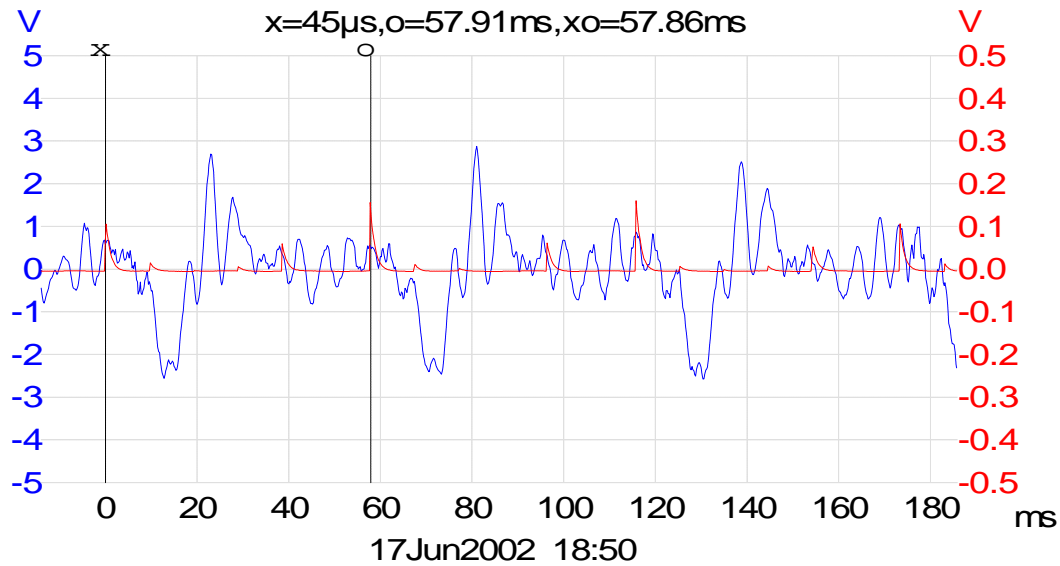
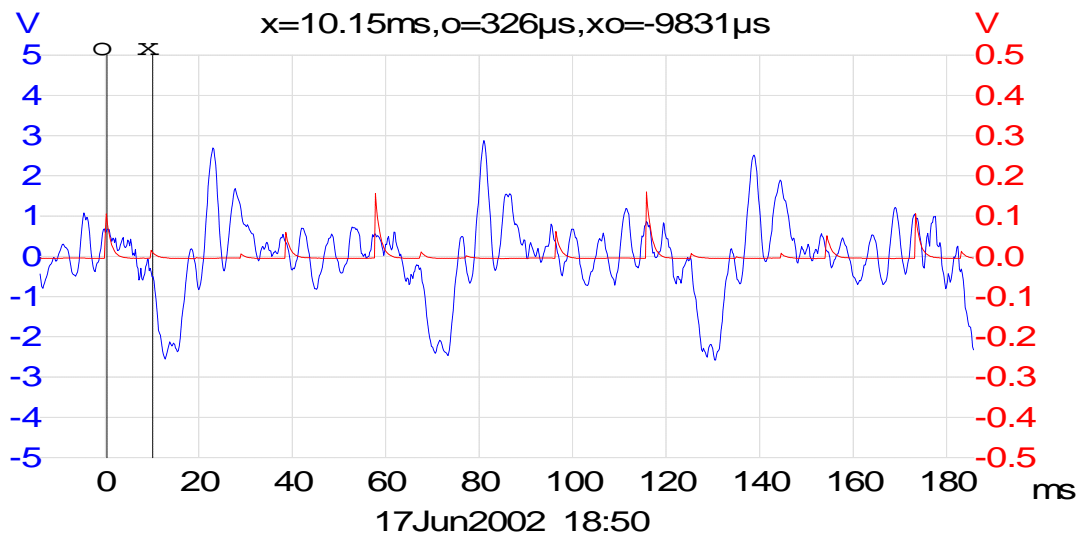

Figure 19
Figure 20
The waveform in Figure 19 shows a six cylinder engine with a repeating problem. Starting from the first trigger point (X) we see a 57.86ms time elapsed between trigger events. This tells us, by looking at the timing chart (Figure 12), that the pattern was taken at an engine speed of approximately 2100rpm. Looking at the timing chart for a 6 cylinder engine we can determine that each cylinder occupies approximately 9.5ms of the time between trigger reference points. In Figure 20 we divide the window and see which cylinder has the problem.